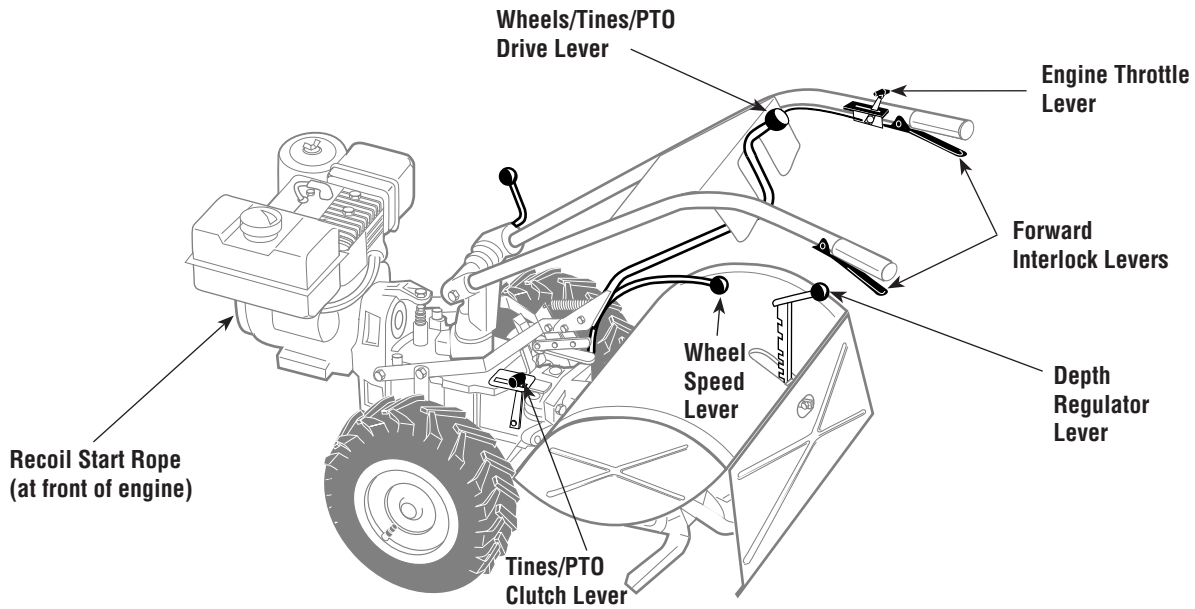

Figure 4-2: Tiller and engine controls.
4. Shift the Wheels/Tines/PTO Drive lever (Figure 4-2) into NEUTRAL position. See Section 3, *Controls* for more information on this lever.
1. With the engine off, place the **Wheels/Tines/PTO Drive Lever** (Figure 4-2) in the **NEUTRAL** position. If in the **FORWARD** position, tap the lever sharply upward, it should automatically move into **NEUTRAL** position.
2. Put the **Depth Regulator Lever** in the **Travel** position (lever all the way down) so that the tines are off the ground. To do this, lift up on the handlebars, pull the lever (Figure 4-2) back, and push it down all the way to the top detent (notched) position.
3. Move the **Wheel Speed Lever** (Figure 4-2) to either the **SLOW** or **FAST** position. Be sure to roll the wheels while shifting the lever until the wheels engage.
4. Move the **Tines/PTO Clutch Lever** into **DISENGAGE** position (Figure 4-2).
7. Move engine throttle lever (Figure 4-2) away from **STOP**.
5. Warm up the transmission gear oil as follows: With engine running, move Wheel Speed Lever (Figure 4-2) to FREEWHEEL (then block wheels so they can’t roll), put Tines/PTO Clutch Lever into DISENGAGE, then squeeze one of the Forward Interlock Levers and shift the Wheels/Tines/PTO Drive Lever to FORWARD.
1. Shift the Tines/Wheels/PTO Drive Lever (Figure 4-2) into NEUTRAL and move the Wheel Speed Lever to the SLOW position.
2. Move Tines/PTO Clutch Lever (Figure 4-2) into DISENGAGE position.
1. At the end of a row, move the Wheels/Tines/PTO Drive Lever (Figure 4-2) to NEUTRAL position and reduce the engine speed.
2. Move the Tines/PTO Clutch Lever (Figure 4-2) into the DISENGAGE position.